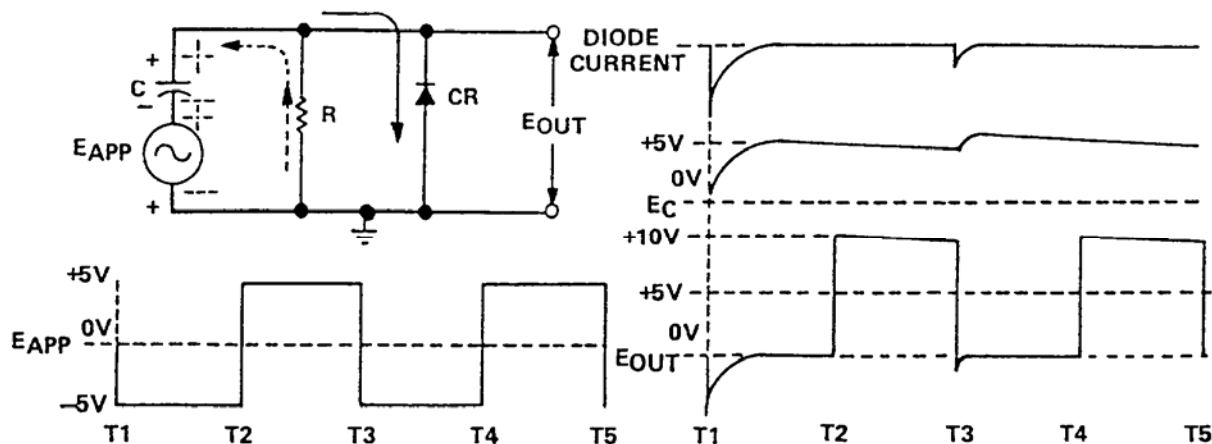

Figure O-1. Positive Diode Clamper with Zero Reference Level
In a positive or negative diode clamper with zero reference level (Figure O-1), if the resistor or diode were to short there would be no output. If the capacitor were to short, the circuit would act as a half-wave rectifier. An open in the diode would cause the output to appear with equal parts of the waveform above and below a zero reference.
(1) Initially the topside of C is at zero volts. When the negative half-cycle is coupled across C, the diode becomes forward-biased. Because the resistance of the diode is very small, current through the diode prevents the output terminal from going negative.
(2) Electrons are repelled from the top plate of C, effectively charging C to the peak value of the input square wave. The E_c waveform shows the rapid charge of C. When C is charged, the output voltage level is zero volt. As shown in Figure O-1, C charges to +5V. This action occurs from T1 to T2.